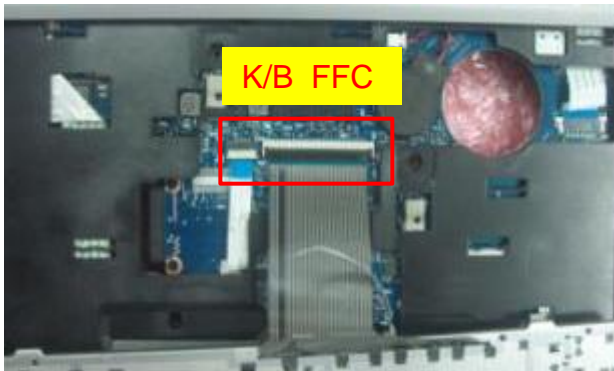

Fig.2
2. Disassemble K/B FFC from M/B CNTR (Fig.2)